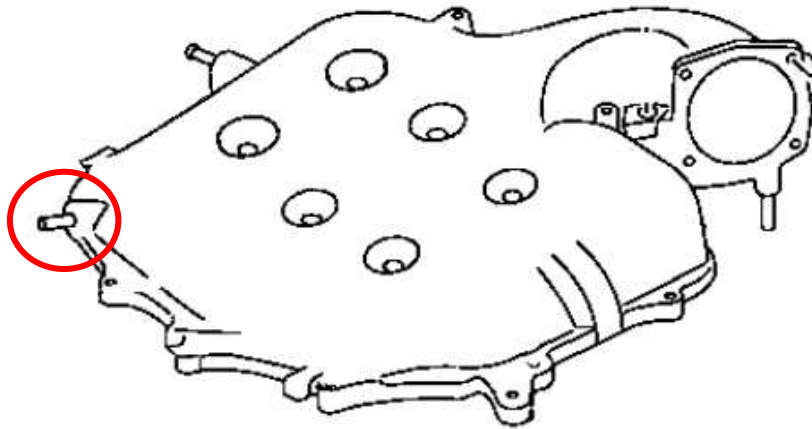

Figure 88
1. Locate the 4mm Vacuum Line (#53). Remove the OE Cap on the Intake Manifold Collector and install the Vacuum Line. Secure with a 4mm Vacuum Line Clamp (#22) *Figure 88*.